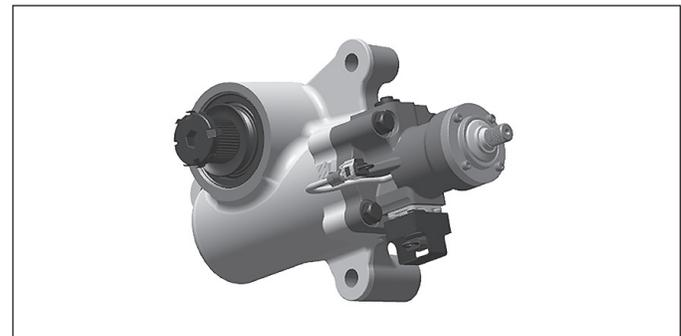

Figure 5 – Magnetic Torque Overlay (MTO) Steering Gear
- The MTO power steering gear enables hydraulic steering. See *Figure 5*. For additional service and troubleshooting information, refer to the *Sheppard™ D-Series Integral Power Steering Gear manual* on rhsheppard.com.